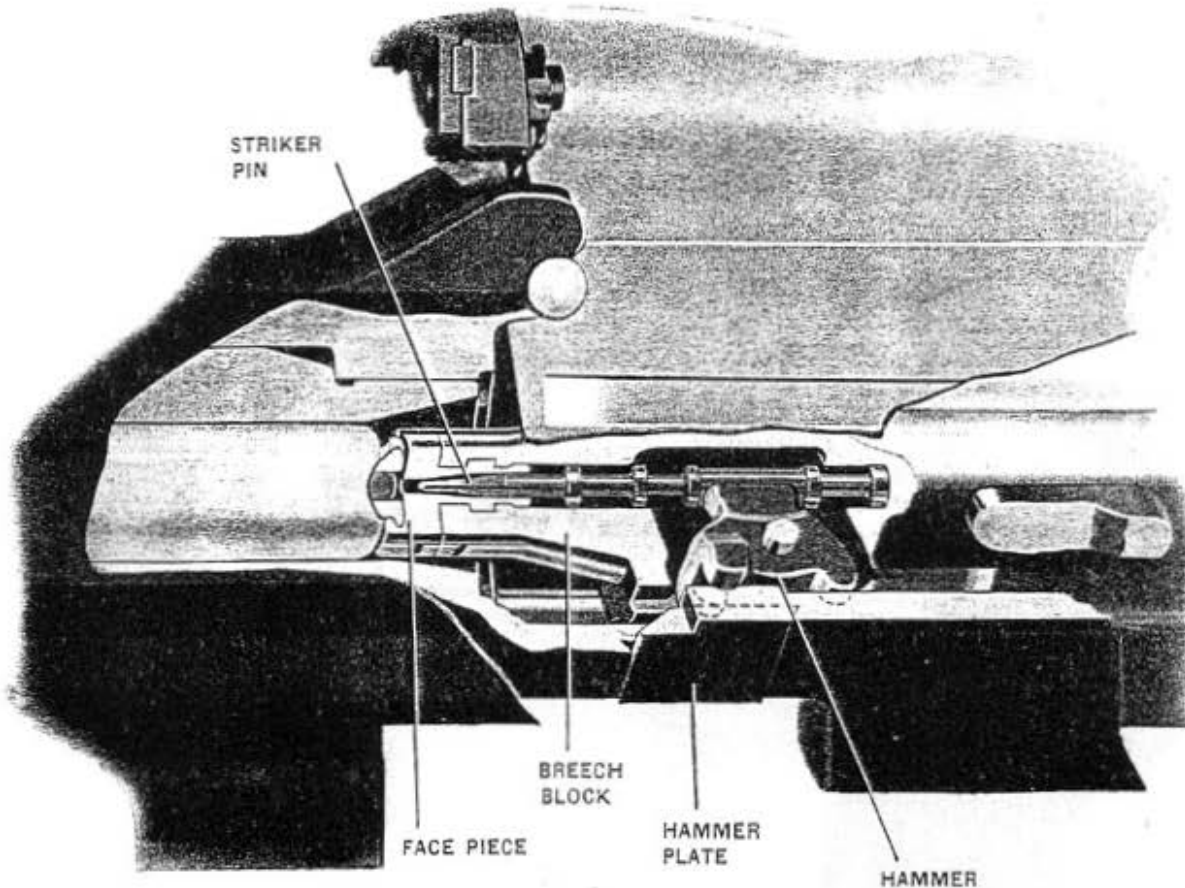
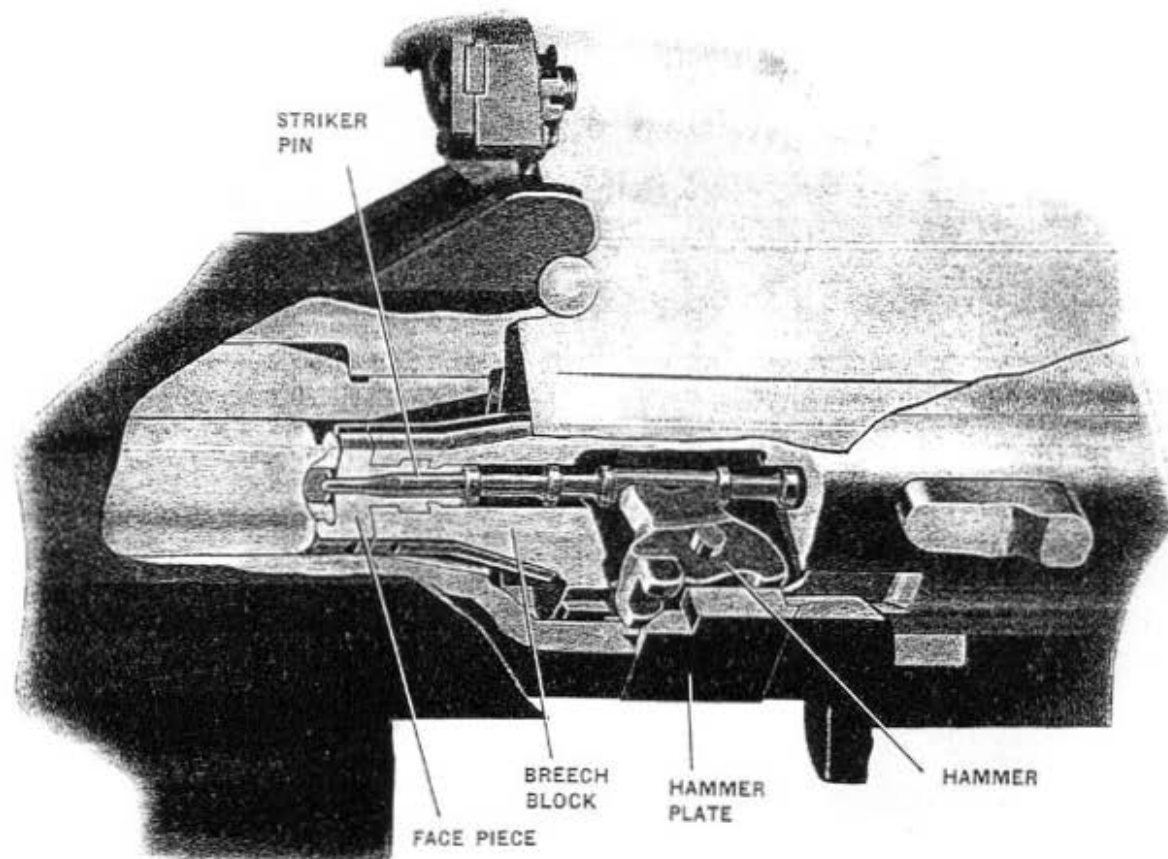

Figure 44—Breech bolt traveling forward with cartridge
Figure 45—Breech bolt has carried cartridge into position to be fired. Rear hammer toe on hammer plate; front hammer toes in recess in breech casing
The action of the striker gear is shown in Figures 44 and 45 showing the striker pin being held to rear when the breech bolt is traveling forward; the hammer imparting a blow to the striker pin and the striker pin being withdrawn by the hammer.
In order to understand the action of the hammer it should be noted in Figures 44 and 45 that the front toes and rear toe are positioned out of line with each other. There are two front toes, one on each side of the hammer. The rear toe is an extension of the center part of the hammer. The upper part of the hammer rests in, and operates, the striker pin. The hammer plate is secured to the breech casing and has a center cam surface, to operate the rear toe of the hammer and impart a thrust on the striker pin. Momentum carries the striker forward, thus firing the cartridge. See Figure 45. The hammer plate has two other cam surfaces, one on each side, to operate the hammer front toes and thus withdraw the striker pin from the
1. Breech block is traveling forward; Figure 44, it has picked up a cartridge, but has not quite reached the firing chamber. All three hammer toes are riding against the side of the breech casing, thereby holding the striker pin to the rear. The rear toe is about to strike the rear end of the center cam surface of the hammer plate.
2. The breech block has reached the end of its travel, Figure 45. The cartridge is being fired. The rear toe of the hammer is riding on the center cam surface of the hammer plate, causing the hammer to rotate forward. The hammer has driven the striker pin fully forward penetrating the primer of the cartridge. The front toes have entered a cutaway recess in the breech casing.
3. The breech block has started on recoil carrying with it the fired cartridge, Figure 44. The front toes have ridden up the front slope of the hammer plate causing the hammer to rotate rearward. The hammer has retracted the striker pin from the fired cartridge.
The breech block face piece, Figures 44 and 45, is mounted in the front end of the breech block. It is retained by a shoulder that fits into a recess machined in the breech block, and is locked in place by a leaf spring. A hole is drilled in the center of the breech block face piece for the forward end of the striker pin. A cartridge carrier lip is integral with the front of the face piece, to carry the rear end of the cartridge case.